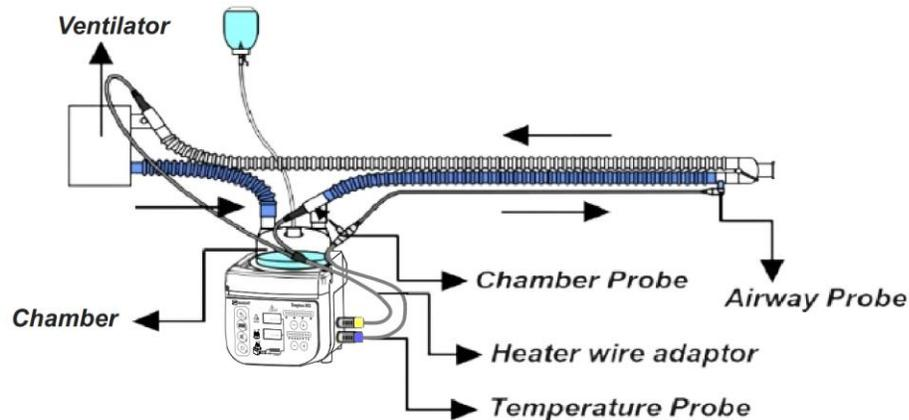

Figure 5. Breathing circuit system in Invasive & Non-Invasive modes
4. Connect the breathing tubes according to one of Figure 5 or 6, depending on the device settings.